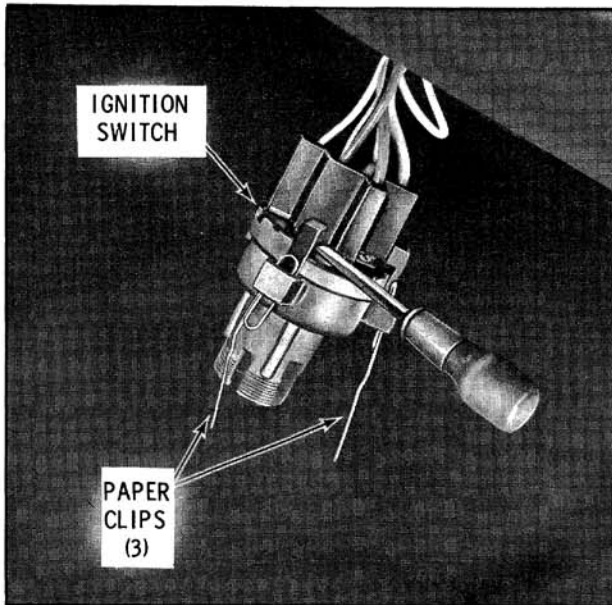

Fig. 12-109 Disconnecting Ignition Switch
4. Drop the switch down behind the instrument panel to remove the wiring connector. (Fig. 12-109)